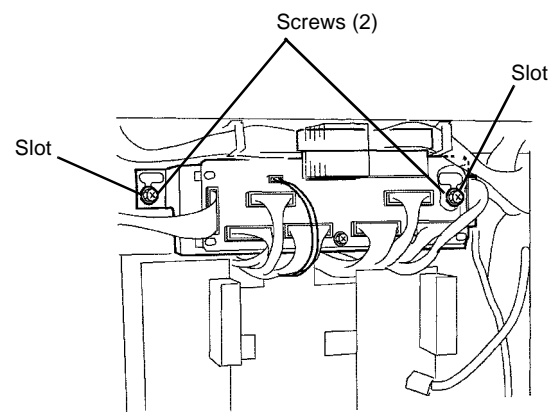

Figure 3 Installing Interface PWB
Ensure screws (2) are positioned in slots as shown before tightening (Figure 3).